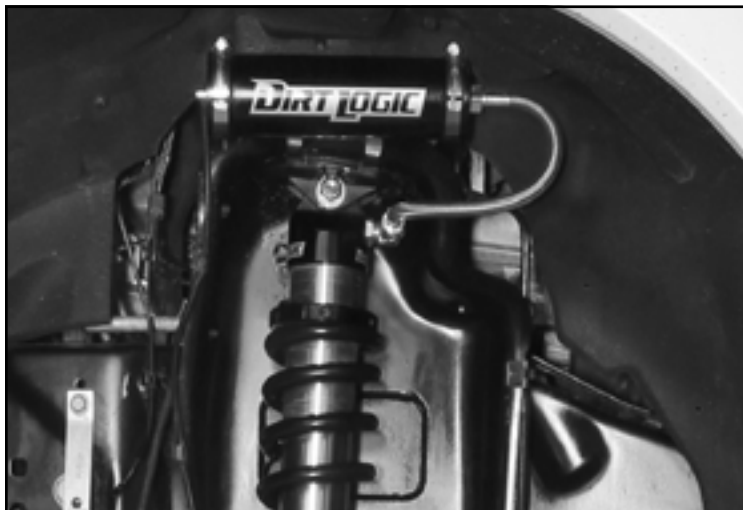

FIGURE 14 - STEP 18
- 18. Install the resi can to the resi mount using the supplied clamps. SEE FIGURE 14**